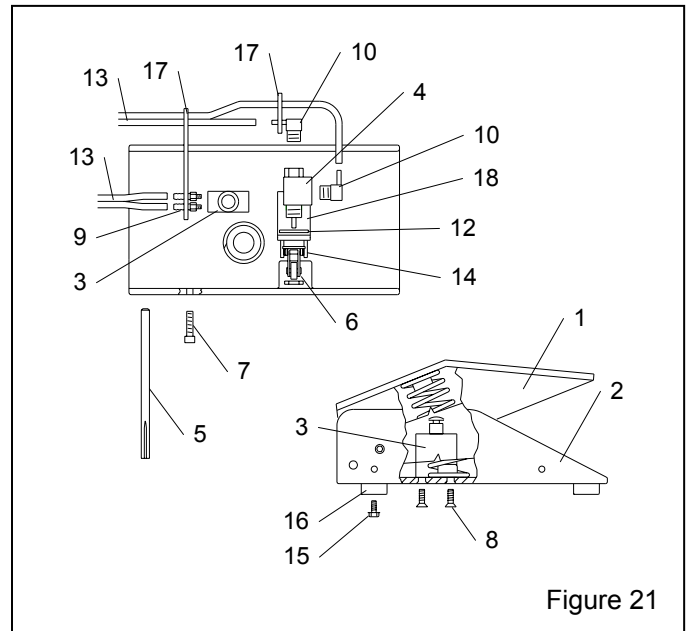

Figure 21
9.7 Foot Pedal Assembly, Figure 21